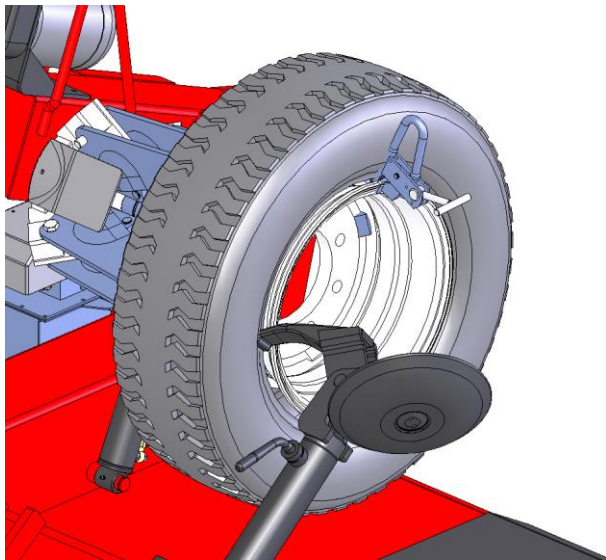

Fig. 15
- If it is not possible use the special pincers supplied(Fig. 15) and mount the two beads at the same time. To mount the second bead proceed as shown in.
- Place the tyre on the rim , clamp the special pincers (Fig. 15/ Fig. 7) on the front rim flange and position the tool with reference to the edge of the rim flange.
- Insert the inner tube and support the wheel on the trolley platform (Fig. 15) to assist the operation.
- Re-position the tool near to the valve with the relevant reference point on the edge of the rim. Clamp the pincers (Fig. 15/ Fig. 7) to the left of the tool and rotate the wheel clockwise making sure that the bead is inside the rim channel.